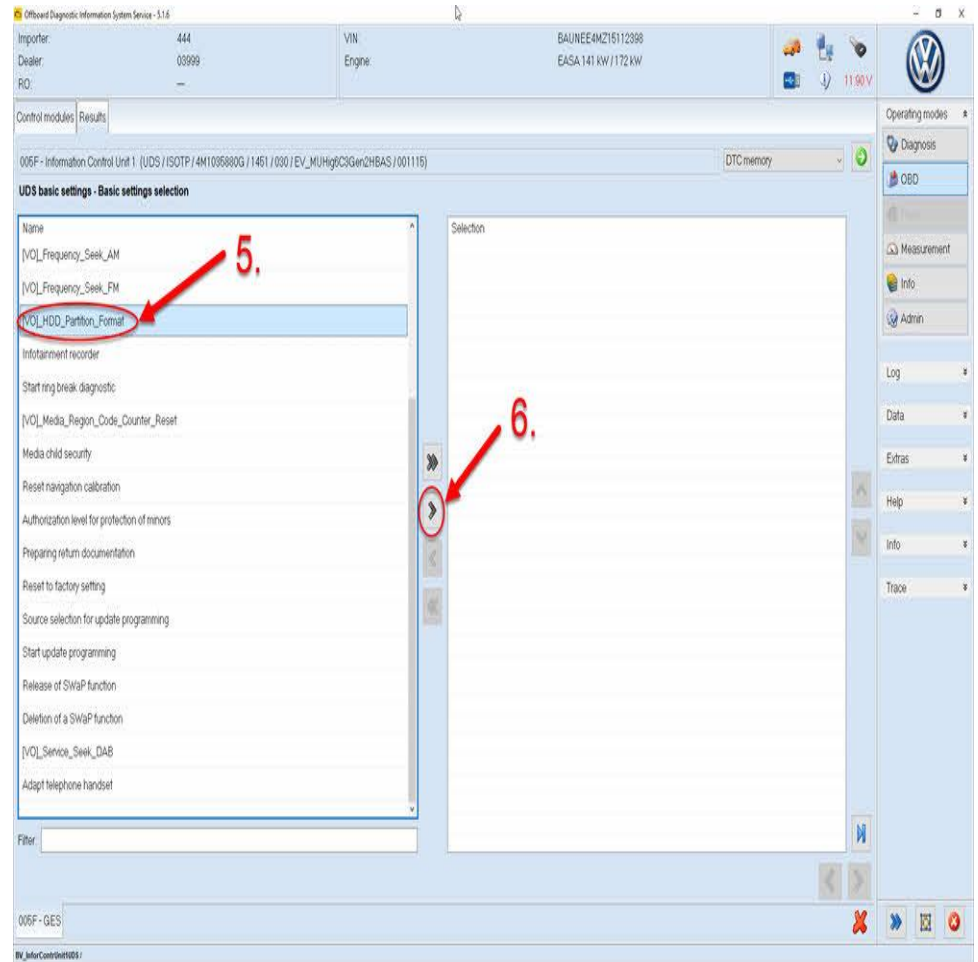

Figure 4. Select the basic setting.
3. In the list on the left, select "[VO]_HDD_Partition_Format" (5), then click the single right-pointing arrow in the center (6) (Figure 4).